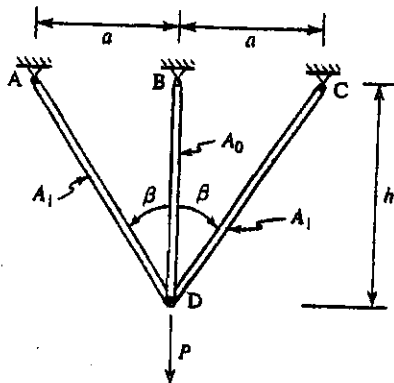

Fig. 2
3. A pin-connected truss is composed of three rods of the same material. The cross-sectional area of rod BD is A_0 and that of AD and CD is A_1 . The truss is subjected to a force P at D, as shown in Fig. 2. Show that if $A_0 = A_1$, the axial forces are given by 20%